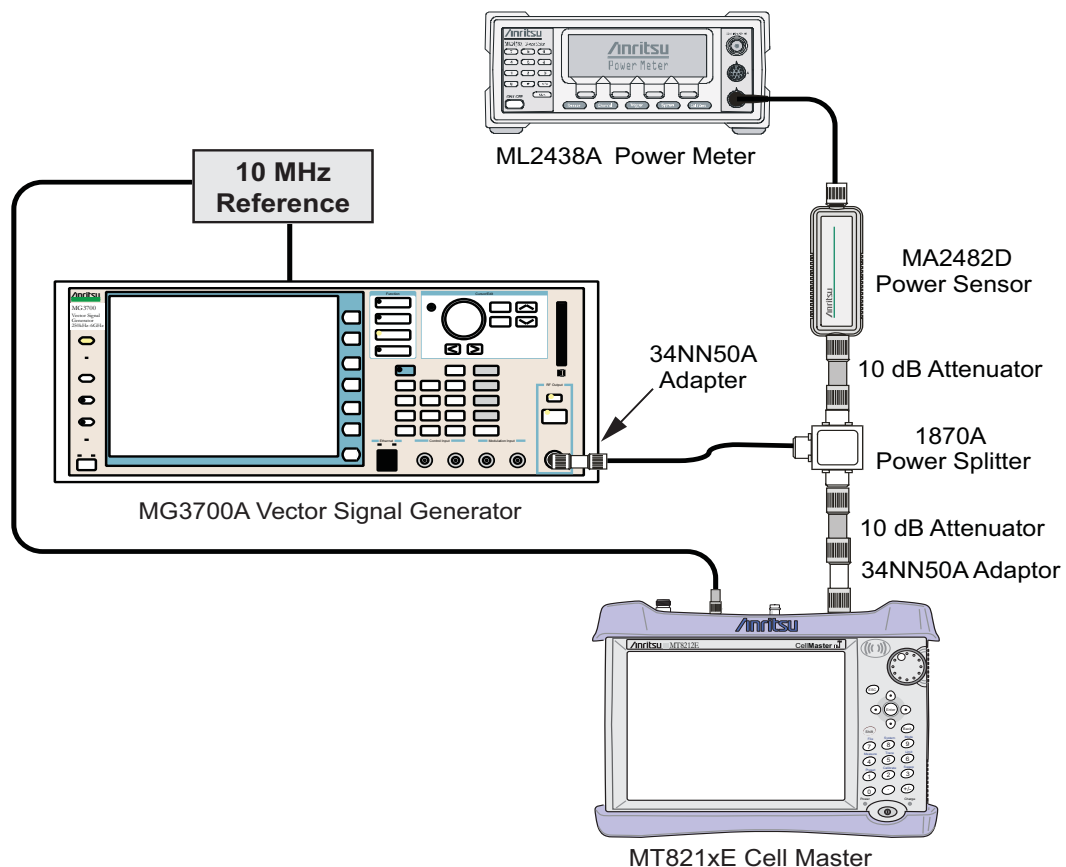

Figure 5-14. Mobile WiMAX Signal Analyzer Option Verification
4. Connect the equipment as shown in Figure 5-14.